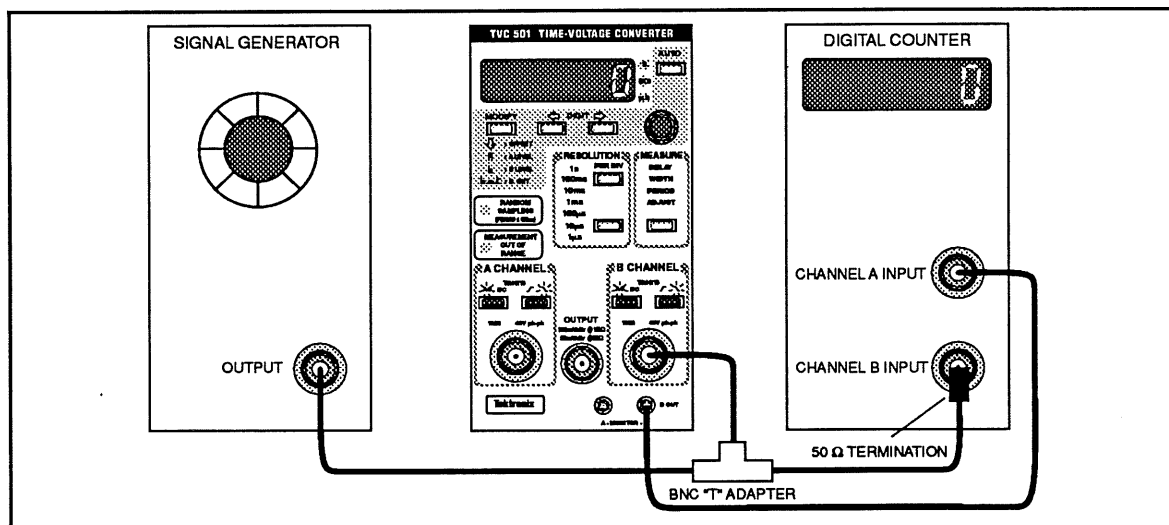

Figure 2-9. Channel B Monitor Output and TRIG'D Indicator Test.
9. Remove the connector from the TVC 501 **A CHANNEL** input and connect it to the **B CHANNEL** input. Remove the connector from the **A MONITOR** output and connect it to the **B MONITOR** output as shown in Figure 2-9.